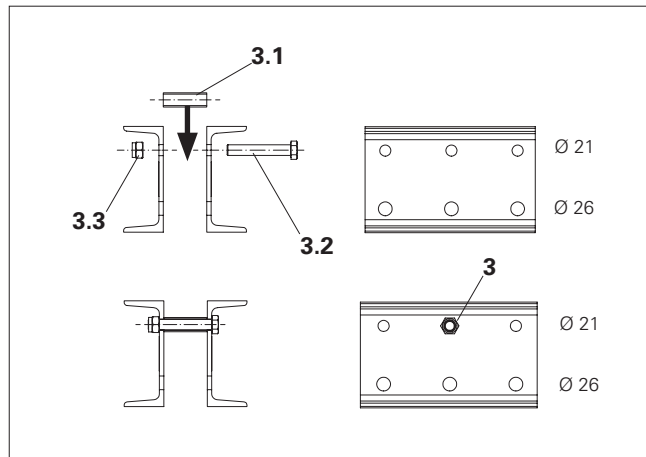

Fig. C1.01
3. Attach self-locking nut M20-8 (**3.3**) (AF30) to the bolt and tighten. Tightening torque min. 100 Nm. (Fig. C1.01)